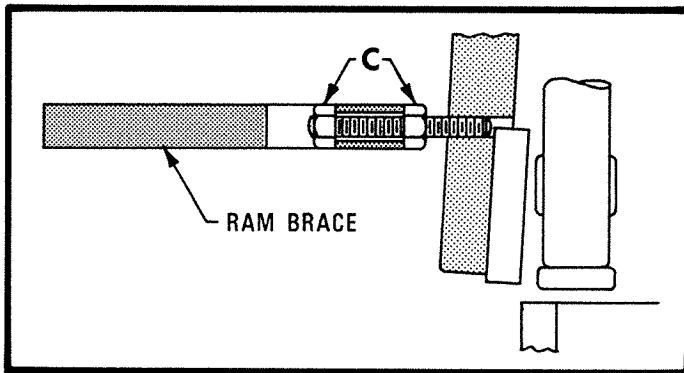

FIGURE 68
8. Jog or move the ram upwards, checking knife clearance as knives cross at each holddown unit. The knife clearance must decrease as you approach the center of ram. Clearance at center of ram should be .002" smaller than clearance set at each end. If clearance varies, realign ram by means of adjusting nuts "C" on Figure 68.
9. The rigid ram brace controls the alignment of the ram by means of studs and nuts. By loosening one adjusting nut "C", Figure 68, and tightening the other you can move the ram the desired amount. One man should check the clearance while another stands on the table to adjust the ram. The long handle wrench, shipped with the machine, is to be used to make this adjustment. Refer to Figures 69 and 70.